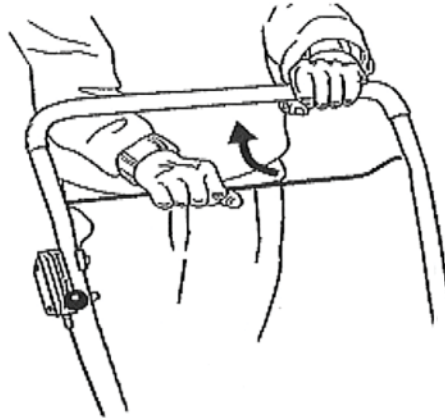

Figure 9
****For Mowers equipped with Operator's Presence Control (OPC), pull the OPC arm up toward the handle and hold it securely with left hand. (Fig. 9)**